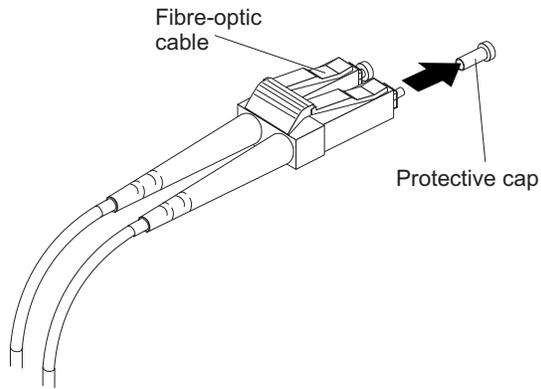

Figure 33. Removing fiber-optic cable protective caps
3. Remove the two protective caps from one end of the LC-LC cable, as shown in Figure 33 on page 52. Save the protective caps for future use.